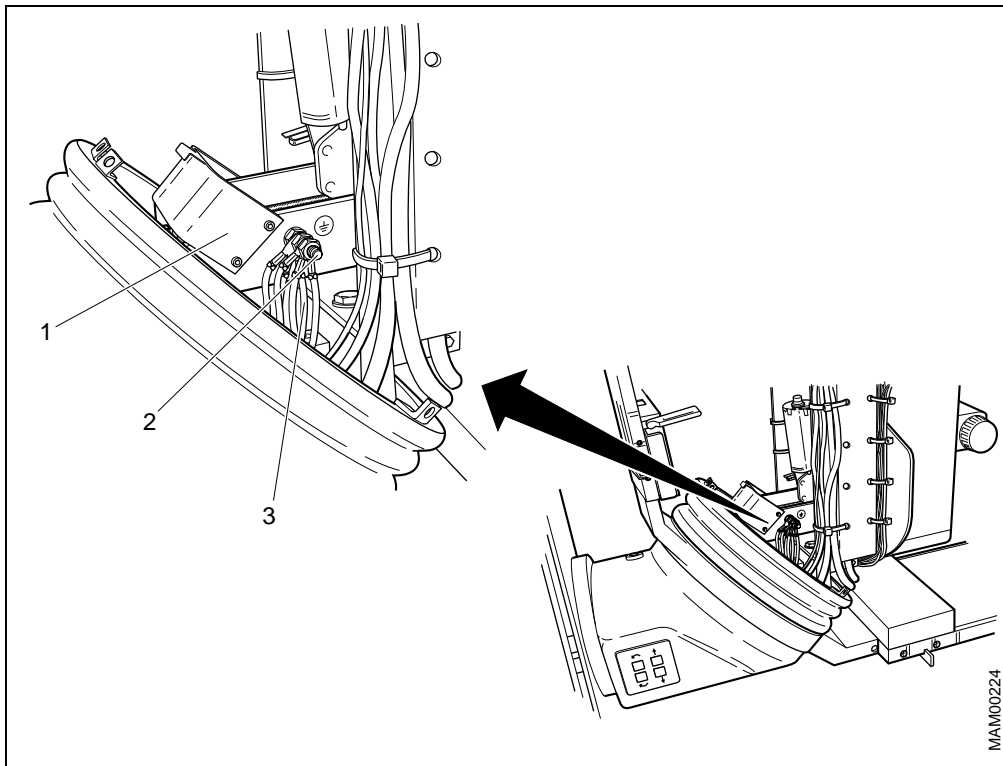

Fig. 1 Position of the protective conductors and the cable guide
- 6.1. Remove cable guide (1/Fig. 1).
- 6.2. Remove earth screw (2/Fig. 1) and ground cables (3/Fig. 1).